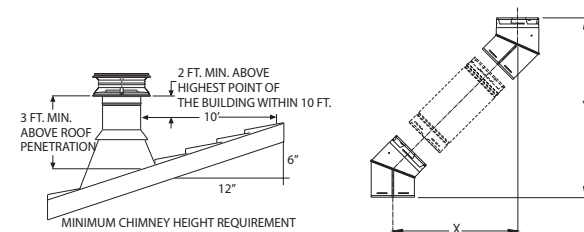

Figure 1
Step 2.	Measure the roof pitch. For example, a 6/12 pitch has a vertical rise of 6" over a horizontal distance of 12". Select the appropriate flashing. See Figure 1.
Step 3.	Determine the minimum chimney height above the roof line. Building codes require a minimum of 3' above the roof penetration, and at least 2' higher, than any portion of a building within 10'. See Figure 1.